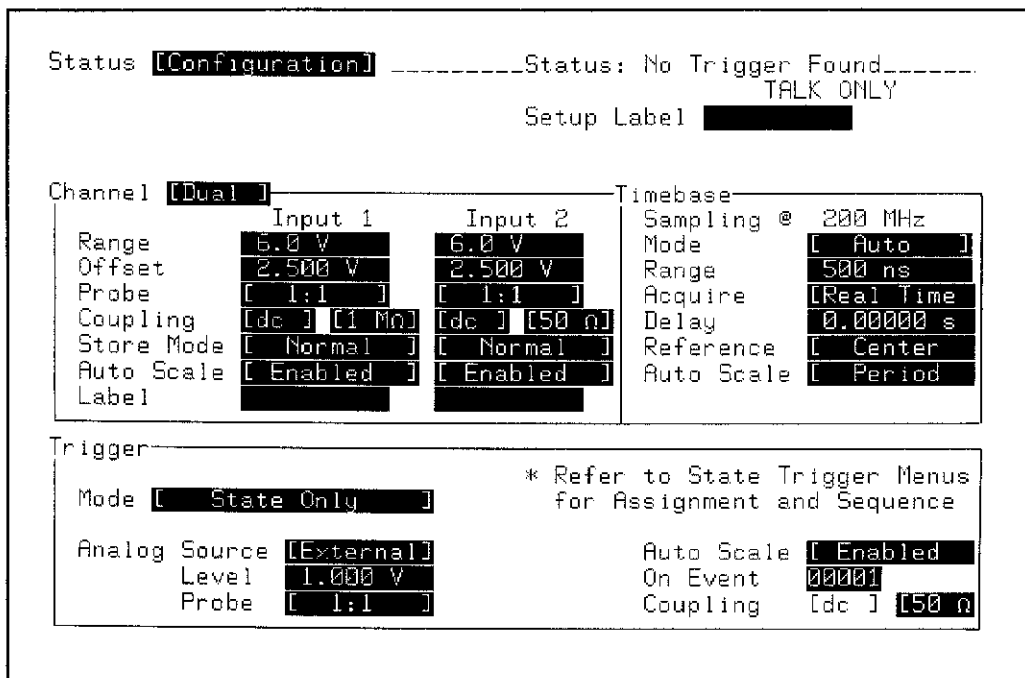

Figure 3-43. STATUS Configuration Menu
1. Configure the STATUS Configuration menu as shown in figure 3-43.
19. Reconfigure the STATUS menu shown in figure 3-43 for Channel 1 offset of -2.5 V.